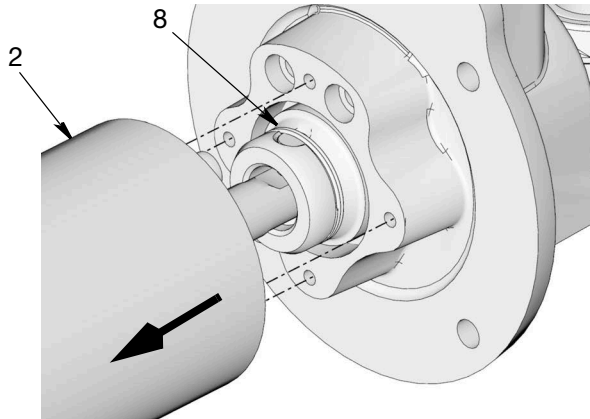

FIG. 25
10. Pull the pump adapter (2) down to access the retaining spring (8) (FIG. 25).